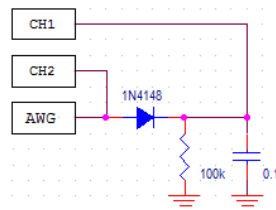

Figure 58: Half wave rectifier circuit
- 1) Build the circuit shown on figure 58.